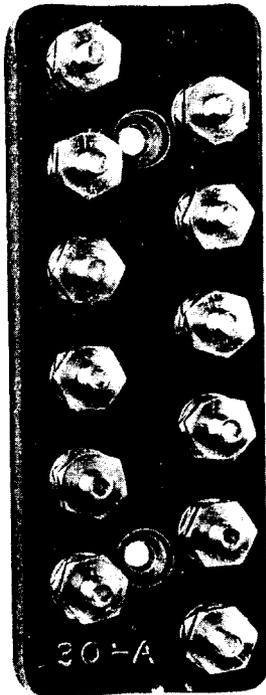

Fig. 1—30A Connecting Block
2.02 *30-Type Connecting Block:* A molded insulating strip with inset threaded terminal lugs, nuts, and washers is used to terminate all conductors. The 30A connecting block is shown in Figure 1.